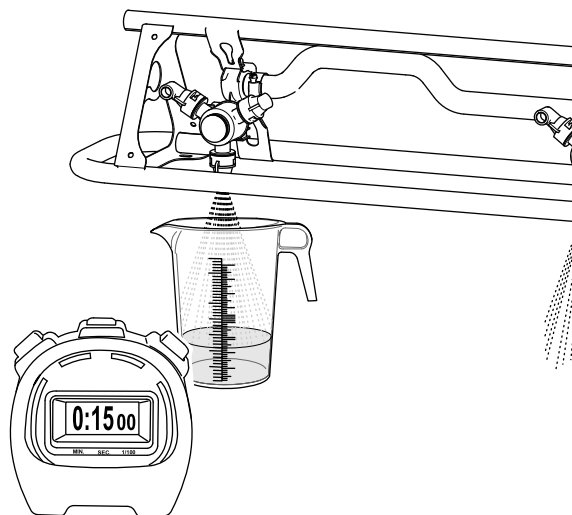

Figure 170
- Move to the back of the machine, place the catch container under 1 of the nozzles, and start the stopwatch (Figure 170).